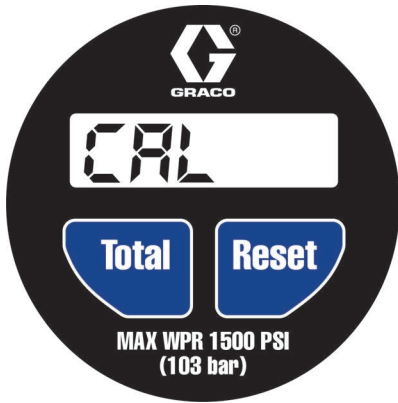

FIG. 7
1. Press the **TOTAL** and **RESET** buttons (FIG. 7) together.
- CAL appears on the display as shown in FIG. 7. CAL indicates the meter is ready for Calibration Mode.